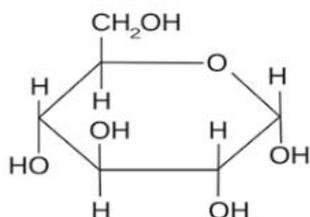

Figure 19.1: Glucose molecule
- glucose ($C_6H_{12}O_6$) (see Figure 19.1)
- glucose (C₆H₁₂O₆) (see Figure 19.1)